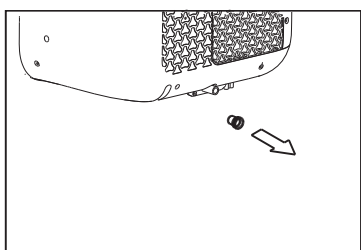

Fig.25
- When the water level of the bottom tray reaches a predetermined level, the unit beeps 8 times, the digital display area shows "P1". At this time the air conditioning/dehumidification process will immediately stop. However, the fan motor will continue to operate(this is normal). Carefully move the unit to a drain location, remove the bottom drain plug and let the water drain away(Fig.25). Restart the machine until the "P1" symbol disappears. If the error repeats, call for service.
- Remove the plug from the bottom drain outlet, all the water in the bottom tray would drain out (See Fig.25).